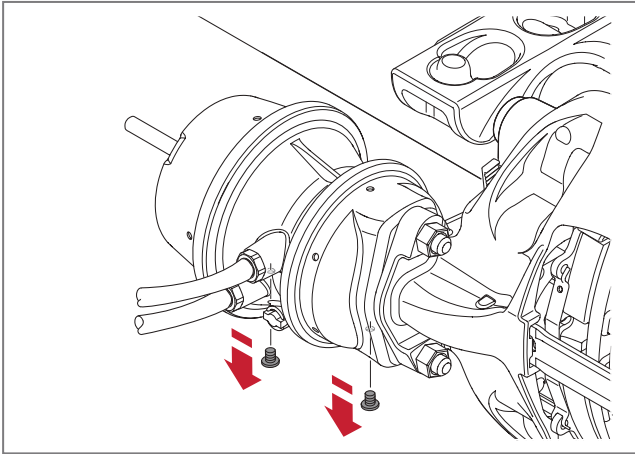

Fig. 47 - Removing the vent plugs
7. Remove the downwards facing vent plugs from the brake chamber housing, see ► Fig. 47. If applicable, repeat this procedure for the spring brake chamber.